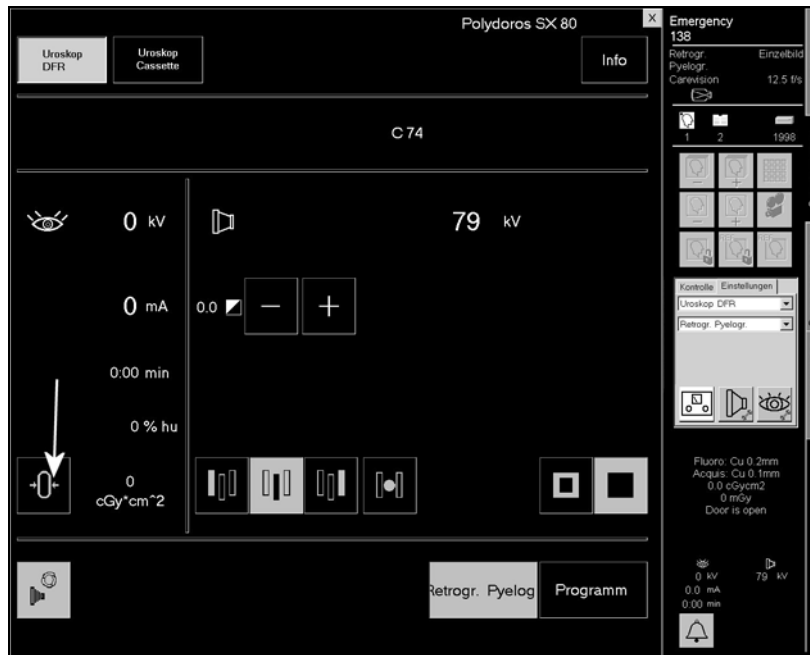

Fig. 9
- Reset the dose area product to "0" at the generator desk (see arrow, Fig. 9).